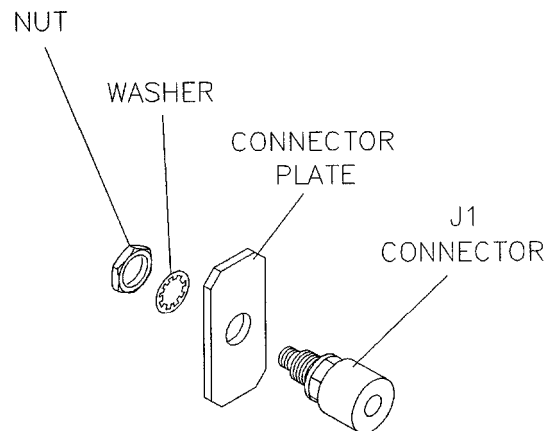

Figure 15. RF Connector Bracket Assembly for the Rear Panel
49. Place the new connector through the new connector plate and attach with the nut and washer supplied in this kit. Refer to Figure 15.